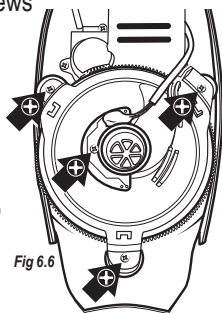

Fig 6.6
3. Loosen and remove the three Phillips-head screws that hold the Ball Tray to the Floor, using the screwdriver (Fig 6.6). Use care not to lose the screws